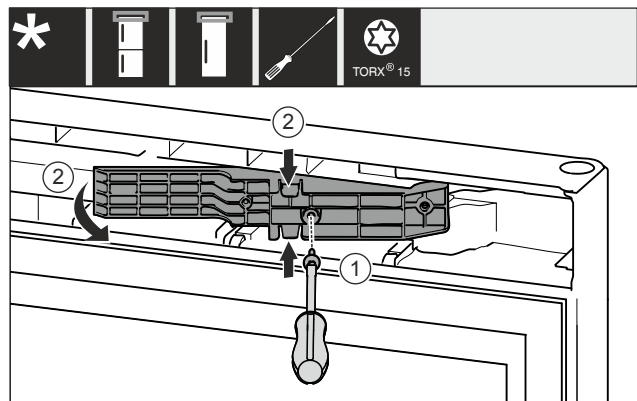

Fig. 12 *
- ▶ Odvijačem T15 otpustite vijke. Fig. 12 (1)*
- ▶ Izvadite adapterski element. Fig. 12 (2)*